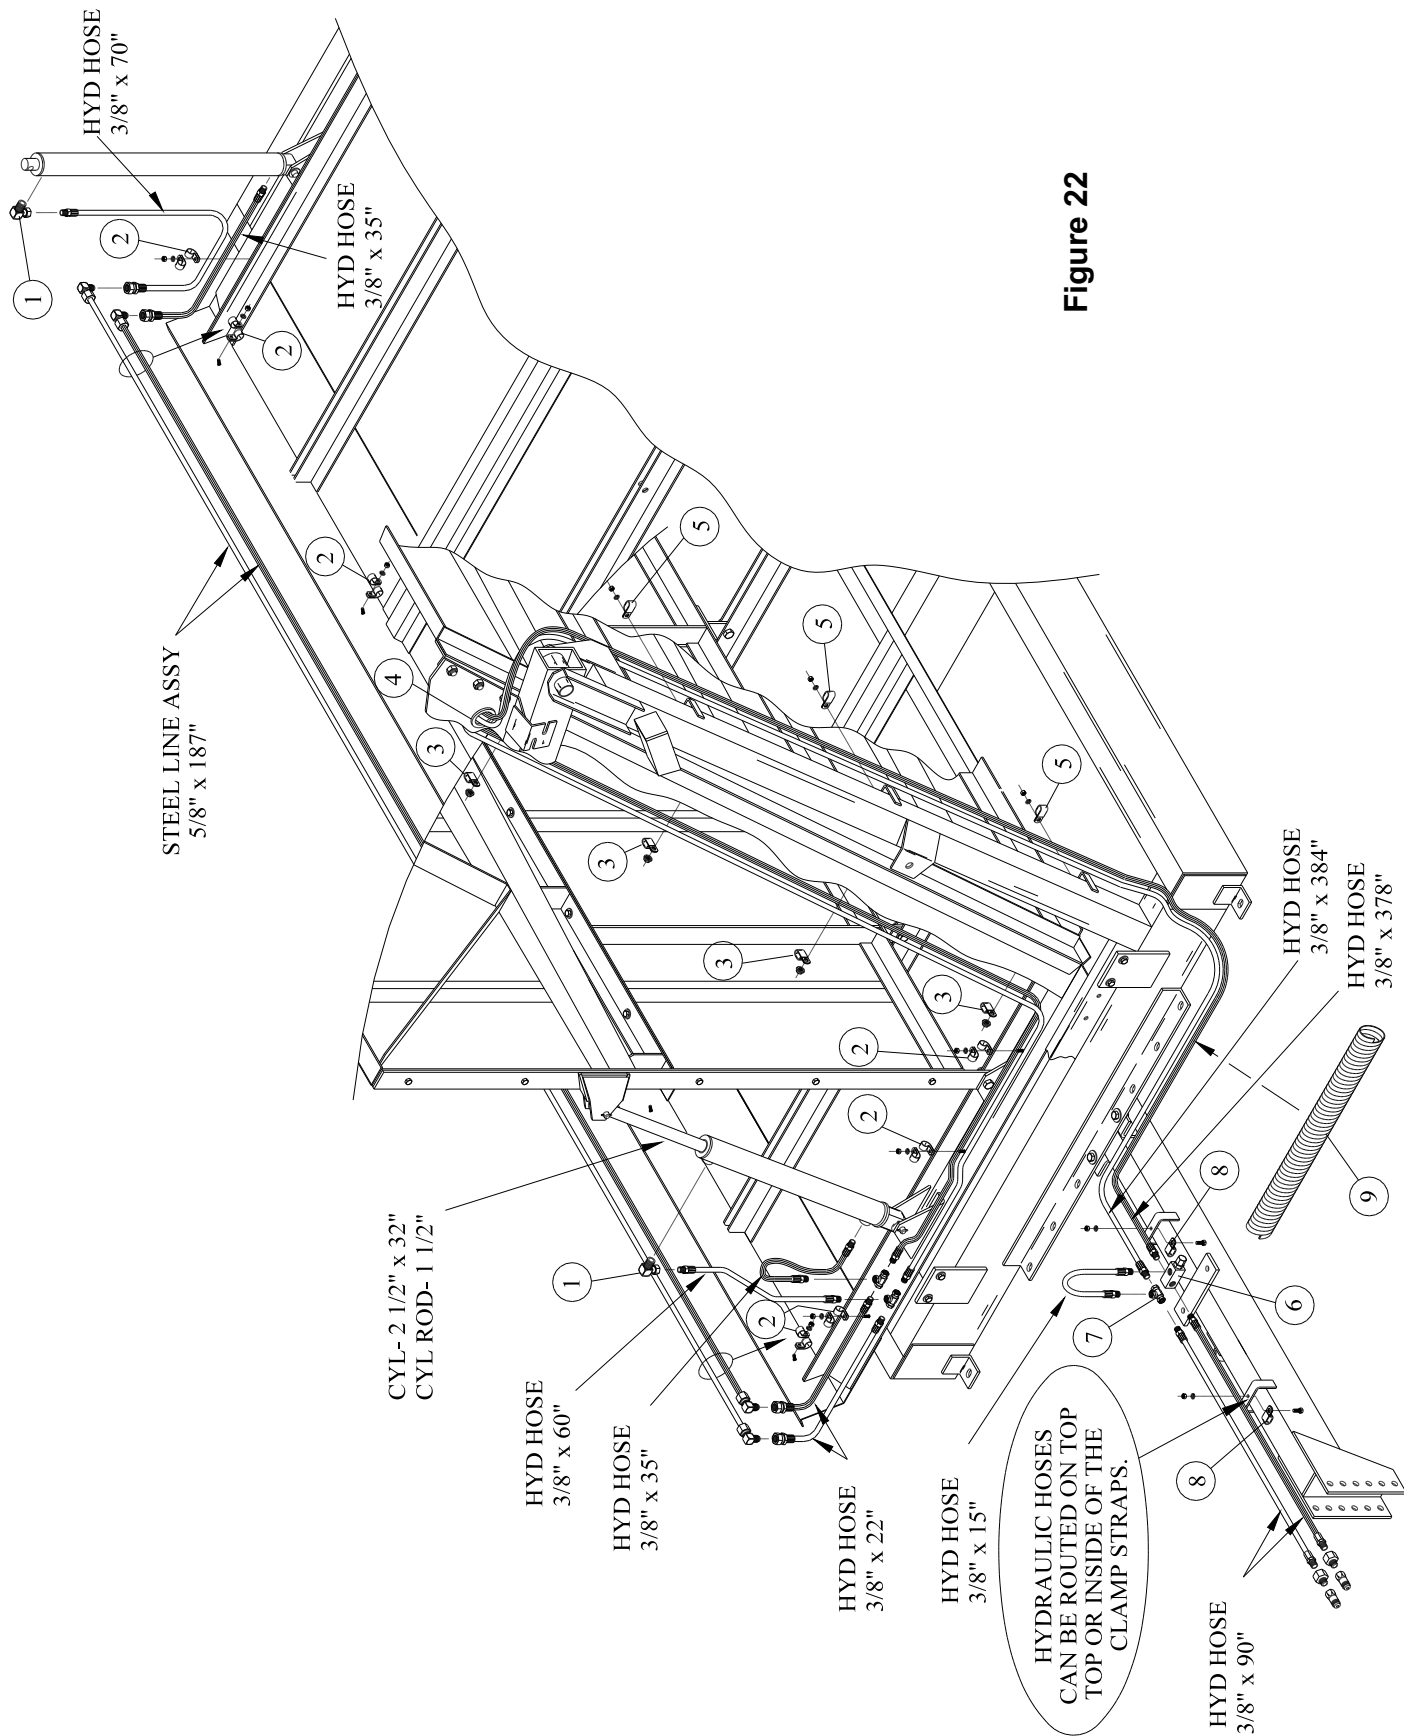

Figure 22
15. PACKER PANEL HYDRAULICS -Refer to Figure 22. Install the elbow fittings in the top cylinder ports (Item 1). Tighten until the hose connecting swivel is pointing downward.
- 15.1 Assemble hoses, fittings, and steel lines as shown in Figure 22.
- 15.6 After all hoses are in place and secured, wrap hoses between the "A" frame and the tongue with the cable wrap (Item 9) as shown in Figure 22.
16. REGULATOR AND CHAIN DUMP HYDRAULICS -Refer to Figure 22. If your unit is equipped with a regulator or the chain dump option, route the hoses from the hydraulic motor along the back side of the "A" frame tube. Attach in the same manner as the packer panel hoses.